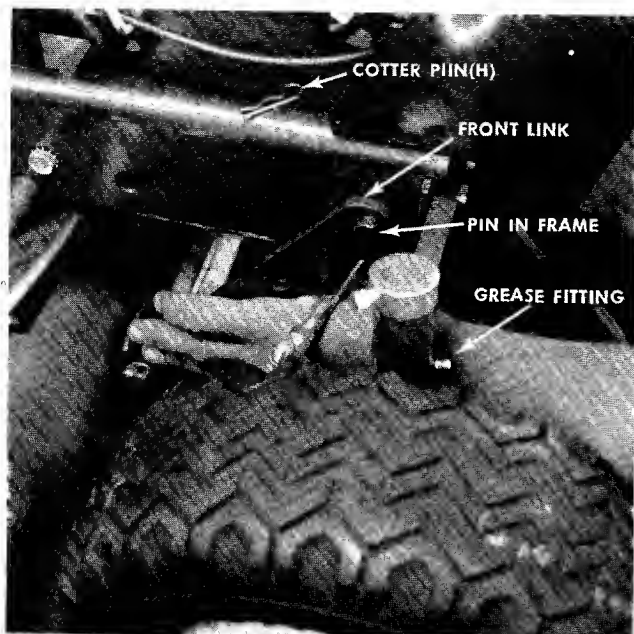

FIGURE 5. FRONT LINK ASSEMBLY
- c. From the front of the rider, grasp both front links and hook them in the pins in the frame and secure with cotter pins (H). See figure 5.